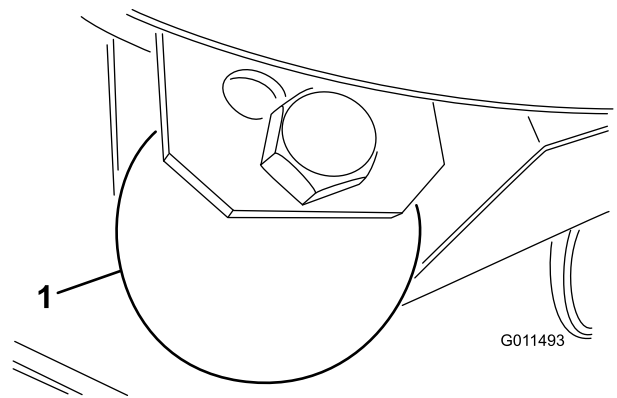

Figure 29
1. Remove the bolt and nut securing the gage wheel to the cutting unit brackets (Figure 29).